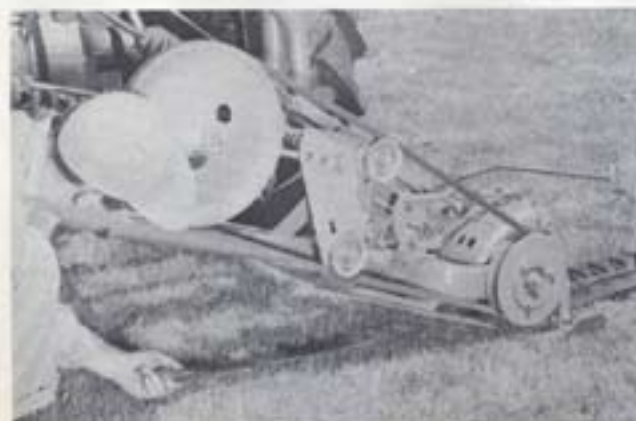

Fig. 45 Knife Replacement
To remove a knife, either for replacement or repair, the cutter bar may either be flat on the ground (as in Fig. 45) or blocked up. Raising the cutter bar off the ground will give easier access to the knife, although if this method is used the operator must be careful to block both ends of the cutter bar up so that it is supported evenly and the knife is not bowed.
5. The replacement knife can now be slipped into the end of the cutter bar; (Fig. 45) when it is fully home, with the tapered plug engaged in the center lever, the retaining bolt should be replaced and screwed down tightly.